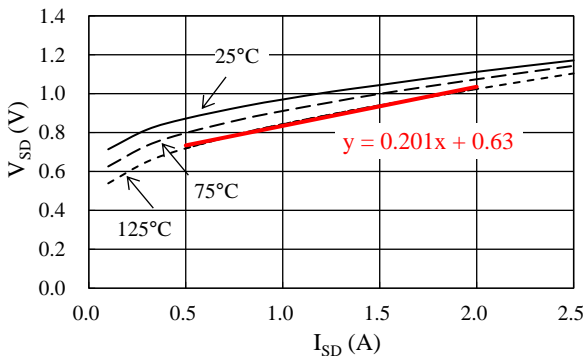

Figure 14-3. Linear Approximate Equation of VSD vs. ISD
Steady-state loss in the body diode of a power MOSFET can be computed by using the VSD vs. ISD curves, listed in Section 15.3.1. As expressed by the curves in Figure 14-3, a linear approximation at a range the ISD is actually used is obtained by: VSD = α × ISD + β. The values gained by the above calculation are then applied as parameters in Equation (9), below. Hence, the equation to obtain the body diode steady-state loss, PSD, is: